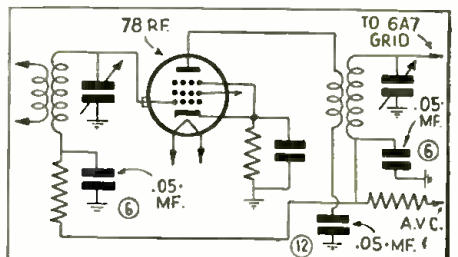

Fig. 3. Intermittent reception in Philco Model 18 sets may be due to either one or more of the above shown 0.05-mf. bypass condensers.
**Philco 18.** Intermittent reception in this set is usually caused by one or more of the 3 bypass units as indicated in Fig. 3. The 2 grid-return condensers marked (6) comprise a dual unit and the condenser marked (12) is a single unit. Touching any of these condensers with a test prod is quite liable to restore normal operation and rather than waste several perfectly good hours trying to find the offender it is better to replace all 3.